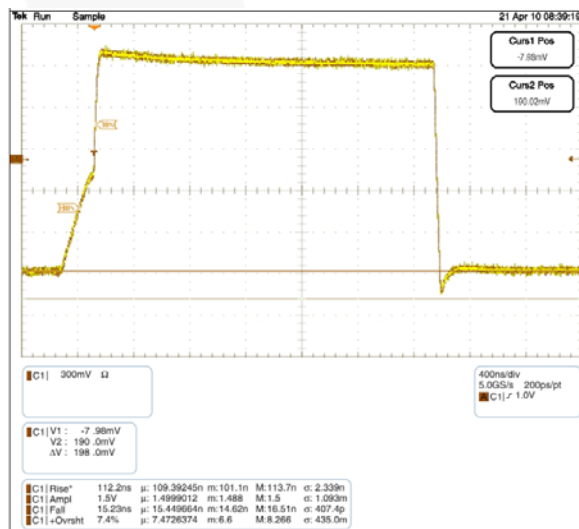

Figure 3. Waveform C: 600pF, $R_{\text{PU}}: 2.2\text{K}\Omega$
Due to I²C's open-drain topology, I²C masters and slaves are not push/pull drivers. Logic LOWs are pulled down (I_{sink}), while logic HIGHs are "let go" (tri-state). For example, when the master lets go of SCL (SCL always comes from the master), the rise time of SCL is largely determined by the RC time constant where $R = R_{\text{PU}}$ and $C =$ the bus capacitance. If the FXMA2102 is attached to the master in this example, say on the A port, and there is a slave on the B port, the Npassgates acts as a low-resistive short between both ports until either of the port's $V_{\text{CC}}/2$ thresholds are reached. After the RC time constant has reached the $V_{\text{CC}}/2$ threshold of either port, the port's edge detector triggers both dynamic drivers to drive their respective ports in the LOW-to-HIGH (LH) direction, accelerating the rising edge. The resulting rise time resembles the scope shot of Figure 3. Effectively, there are two distinct slew rates to the rise time. The first slew rate (slower) is the RC time constant of the bus. The second slew rate (much faster) is the dynamic driver accelerating the edge.
The FXMA2102 dynamic drivers have current sourcing capability and can drive a 400pF capacitive bus. This is beneficial when an I²C buffer/repeater is required. The I²C specification stipulates a maximum bus capacitance of 400pF. If an I²C segment exceeds 400pF, an I²C buffer/repeater is required to split the segment into two segments, each of which is less than 400pF. Figure 3 is a scope shot of an FXMA2102 driving a lumped load of 600pF. Notice the (30% - 70%) rise time is only 112ns ($R_{\text{PU}} = 2.2\text{K}\Omega$). This is well below the maximum rise time of 300ns. So, not only does the FXMA2102 drive 400pF, but it also provides headroom below the I²C specification maximum rise time of 300ns.